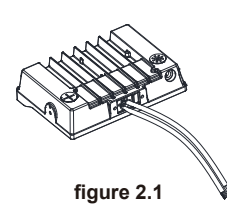

figure 2.1
- Step 1: Take the lamp out of package; (figure 2.1)